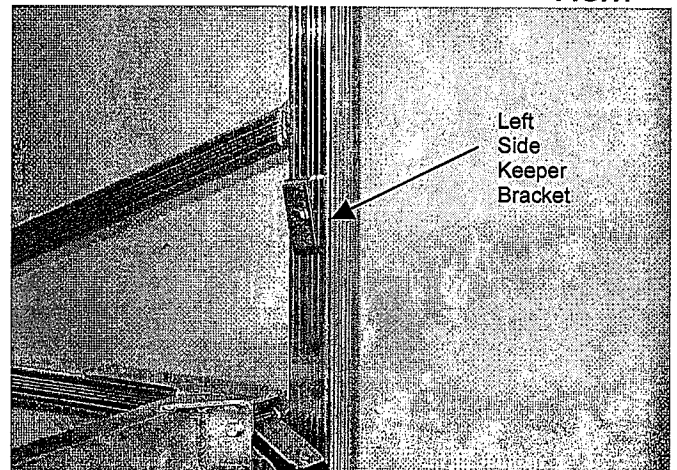

FIG. 18
4. On side frame opposite of winch, attach keeper bracket (See FIG. 18). This is the area where the cable will be tied off.
5. The keeper brackets on both sides should be installed at a slight angle so that the cable does not rub on the keeper bracket (See FIGS. 18 and 19).